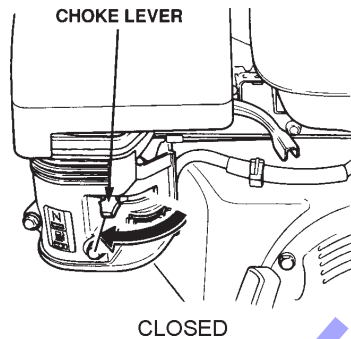

Figure 18. Engine Choke Lever (Closed)
- Place the **choke lever** (Figure 18) in the “**CLOSED**” position if starting a warm engine or if the temperature is warm.
- If the engine has started, slowly return the choke lever (Figure 18) to the “**CLOSED**” position. If the engine does not start, repeat steps 1 through 6.